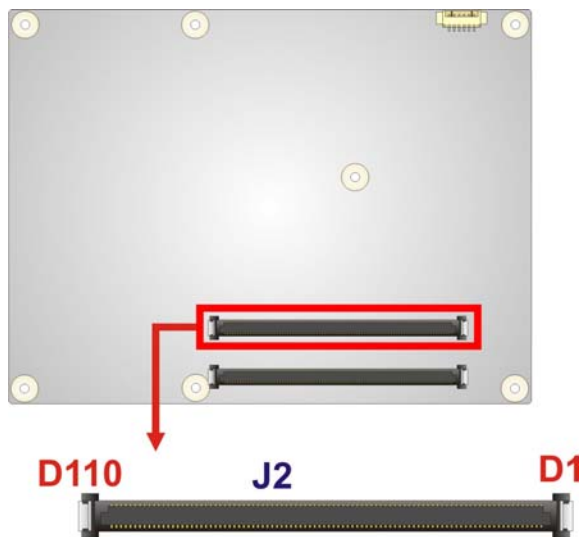

Figure 3-4: COM Express Connector CD Location
- CN Location:** See **Figure 3-4**